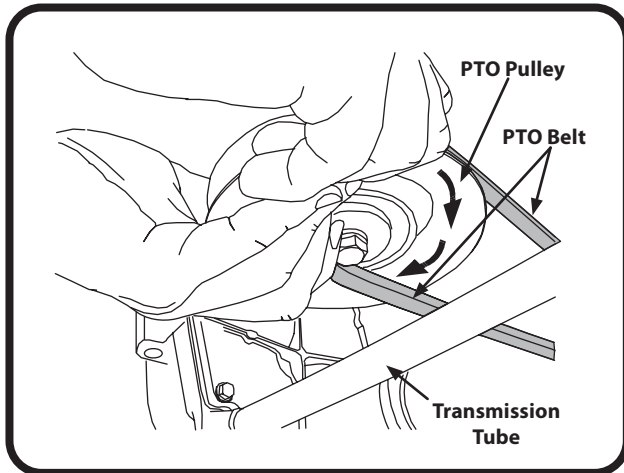

Figure 7.1
3. Sitting behind the tractor facing forward, reach beneath the tractor to grasp the belt at the front of the PTO pulley. See Figure 7.1.